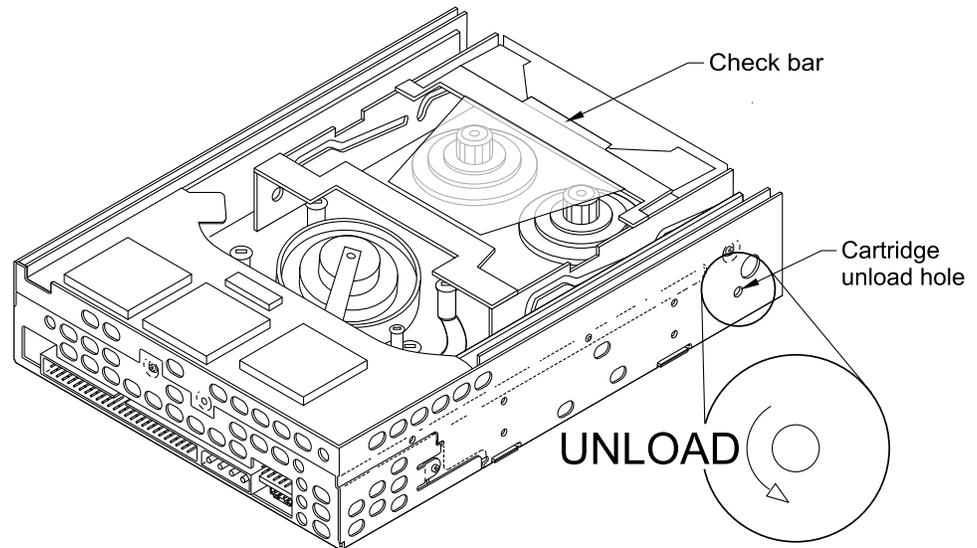

Figure 4 Adjusting the cartridge loader
1. Locate the cartridge unload hole on the left side of the tape drive, as shown in Figure 4.
3. Lift the cartridge loader check bar (see Figure 4) and hold it out of the way as you begin to turn the Allen driver clockwise.